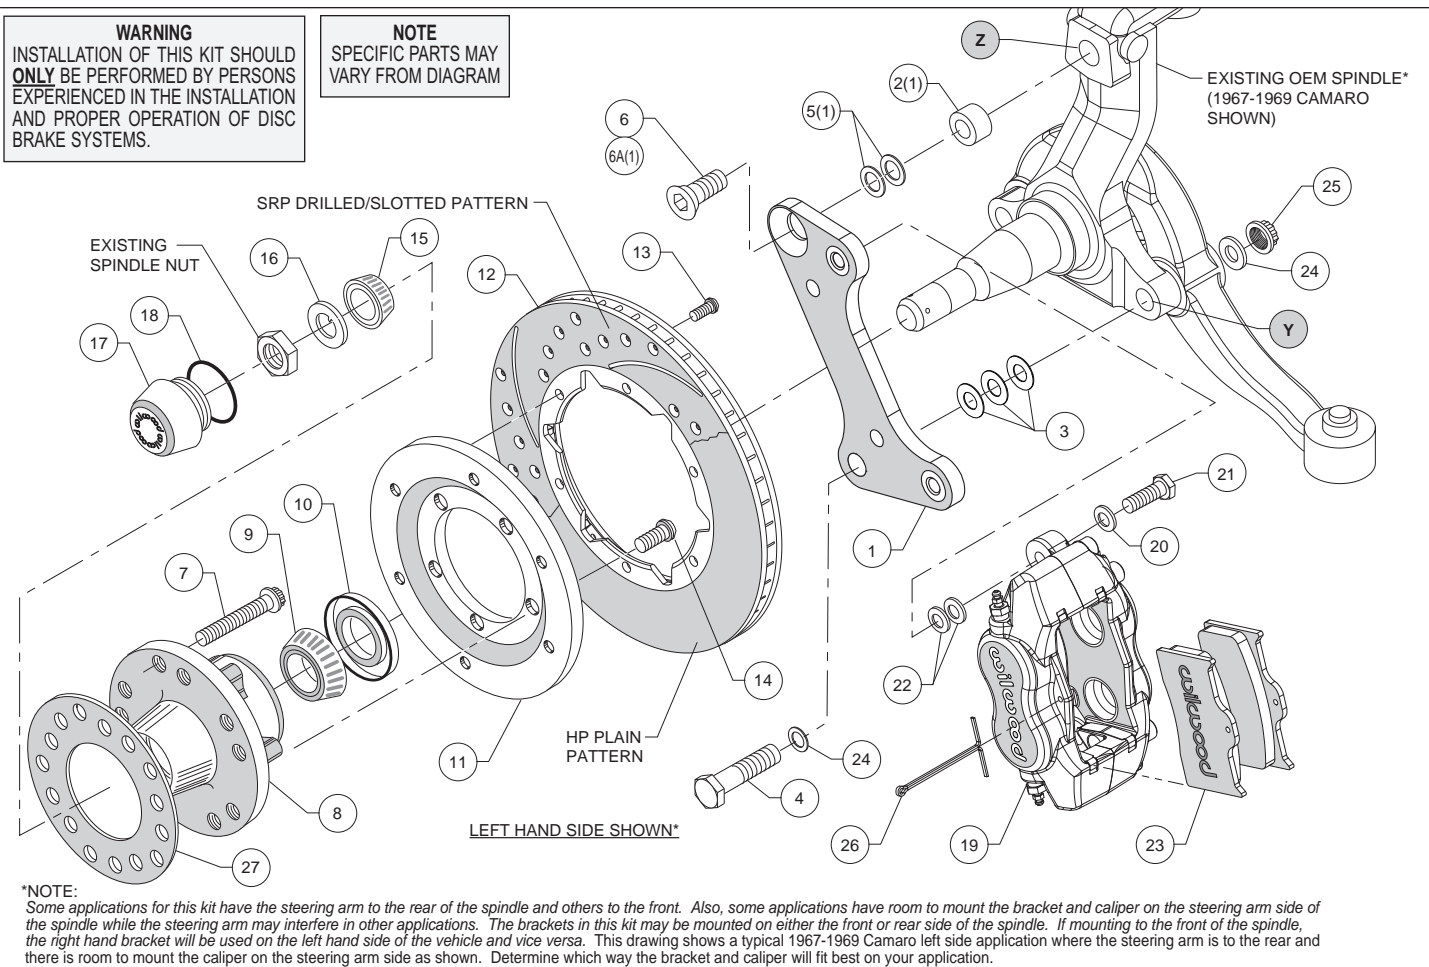
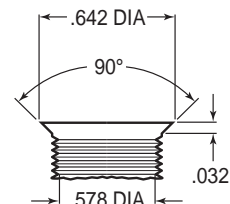

Figure 1. Typical Installation Configuration
Figure 3. Drill and Tap Detail
**Assembly Instructions** (numbers in parenthesis refer to the parts list and Figure 1 on the preceding page): **CAUTION:** All mounting bolts must fully engage clinch nuts. Be sure to check that all bolts are either flush or protruding through flanged side of clinch nut after shimming, Figure 4.
•**NOTE:** Some applications for this kit have the steering arm to the rear of the spindle and others to the front. Also, some applications have room to mount the bracket and caliper on the steering arm side of the spindle while the steering arm may interfere in other applications. The brackets in this kit may be mounted on either the front or rear side of the spindle. If mounting to the front of the spindle, the right hand bracket will be used on the left hand side of the vehicle and vice versa. Figure 1 shows a typical 1967-1969 Camaro left side application where the steering arm is to the rear and there is room to mount the caliper on the steering arm side as shown. Determine which way the bracket and caliper will fit best on your application.
•**NOTE:** Some spindles in this year range may require the following modifications (reference Figure 1 and Figure 3): Top anchor pin hole (Z) must be drilled and tapped to the dimensions as outlined in Figure 3. The lower bolt hole (Y) in the spindle used to mount the new caliper bracket, and the mating steering arm hole, must be enlarged to .50" by drilling. It is recommended these modifications be performed by a qualified machinist.
•Install wheel studs (7) into the hub (8), Photo 1. Torque to 77 ft-lb. **NOTE:** There are two five lug patterns in the hub (5 x 4.50 and 5 x 4.75). Ensure the correct hub stud pattern is being used to fit the wheel application.
- Pack the large inner bearing cone (9) with high temperature disc brake bearing grease (available from your local auto parts store) and install into the backside of the hub (8), Photo 2.
- Install the grease seal (10) by pressing into the backside of the hub (8), flush with the end of the hub, Photo 2.
- Orient the rotor (12) and the rotor adapter (11) as shown in Figure 1 and Photo 3. Attach the rotor to the adapter using bolts (13). Using an alternating sequence, apply red *Loctite*® 271 to the threads, and torque to 25 ft-lb.
- Mount the adapter/rotor assembly (11 and 12) to the hub (8) using bolts (14), as shown in Figure 1 and Photo 4. Using an alternating sequence, apply red *Loctite*® 271 to the threads, and torque to 45 ft-lb.
- Disc Brake Spindle Application Only:** Follow the instructions below, but instead use bolt (6A), spacer (2), and two .050" thick washers (5) in the upper bolt hole location, Figure 1.
- Orient the flat bracket (1) as shown in Figure 1 and Photo 5, and install using bottom bolt (4), washers (24), and nut (25), Figure 1. Initially place three .032" thick shims (3) between the bracket and spindle. Install the upper bolt (6 or 6A), Photo 6. Temporarily tighten bolts. **NOTE:** *The bracket must fit squarely against the mounting surfaces on the spindle.* Inspect for interference from casting irregularities, machining ridges, burrs, etc. Ensure that the flanged heads of the clinch nuts in the bracket are facing outboard. Temporarily install the hub/rotor assembly. Check that the bracket is aligned parallel to the rotor, Photo 7. If not, adjust by adding or subtracting shims (3) on the lower bolt between the bracket and spindle, Figure 1. Once the bracket alignment is correct, remove the upper bolt (6 or 6A), apply red *Loctite*® 271 to the bolt threads, and torque to 120 ft-lb. Torque the lower lock nut to 65 ft-lb.
- Pack the small outer bearing cone (15) with high temperature disc brake bearing grease and install into hub (8). Slide the hub/rotor assembly onto the spindle. Secure using spindle washer (16) and OEM spindle nut, Photo 8. Adjust bearings per OEM specifications. Install saved OEM nut lock (if any) and a new cotter pin (not included).
- Screw dust cap (17) into hub (8). Friction created by the o-ring (18) on the dust cap keeps it from unscrewing. **NOTE:** *The O.D. of the existing OEM spindle washer may be larger than the I.D. of the dust cap not allowing it to seat against the hub face. Therefore, use the spindle washer (16) supplied with the kit instead of the OEM washer.*
- NOTE:** *Please reference the caution statement at the beginning of the assembly instructions.* Mount the caliper (19) onto the caliper bracket (1) using bolts (21) and washers (20), as shown in Figure 1. Initially place two .035" thick shims (22) on each bolt between the caliper and the bracket, Photo 9. Temporarily tighten the mounting bolts and view the rotor (12) through the top opening of the caliper. The rotor should be centered in the caliper, Photo 10. If not, adjust by adding or subtracting shims (22) between the bracket and the caliper. Always use the same amount of shims